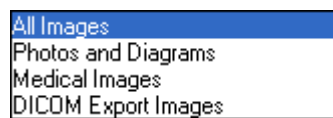

Figure 29: Image Type Filters
1. Click ☒ to open the drop list of Image Type filters, as shown in Figure 29.